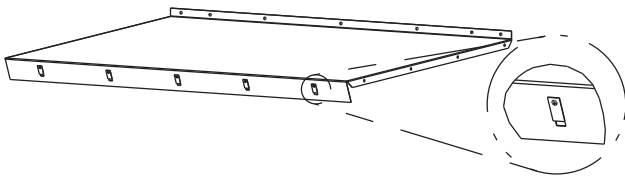

Fig. 22 — Top Hood with Speed Clips
4. Attach speed clips (provided) to hood top. Engagement section of the clip faces inside hood. See Fig. 22 for speed clip assembly locations.